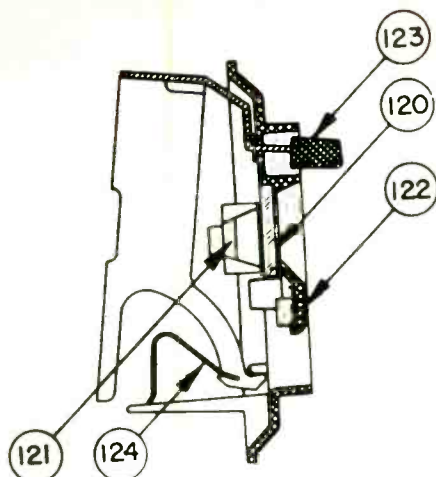

Fig. 6—Escutcheon—cross section.
There have been cases of selector bar binding, Fig. 6, item 123. Since the escutcheon is easily removable, correct by bending the arms slightly.
Dial glasses, Fig. 6, item 120, are held in place by end clips, Fig. 6, item 121, that are notched into the escutcheon walls.